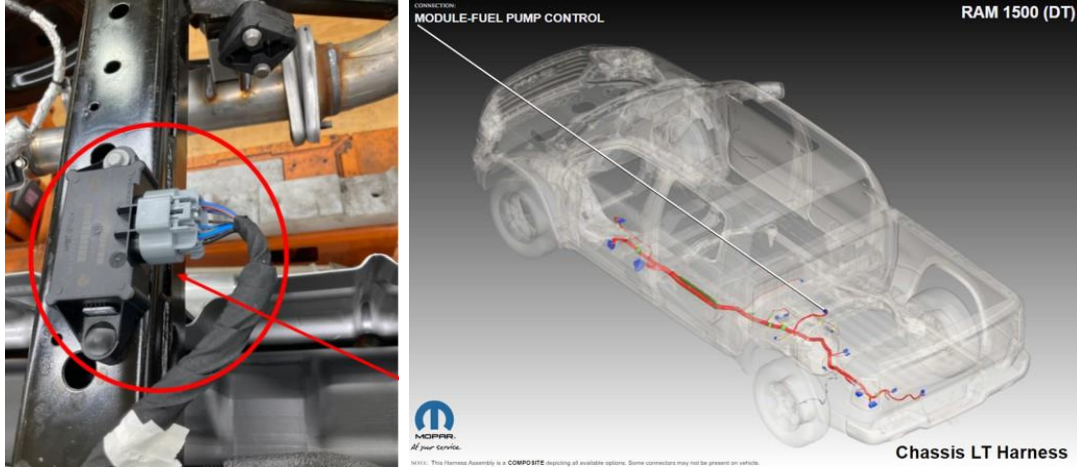

Figure 4.
4. Inspect the Fuel Pump Control Module connector D2792A (see **Figure 4.**) for any loose connections, water intrusion/corrosion, pushed out terminals, and repair as necessary.